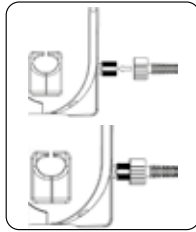

FIGURE 8.2
2. Fix the fitting of the hose to the outlet fitting of the pressure washer (Figures 8.2 and 8.3); Hand tighten the fitting, do not use a wrench to avoid damaging the fitting.